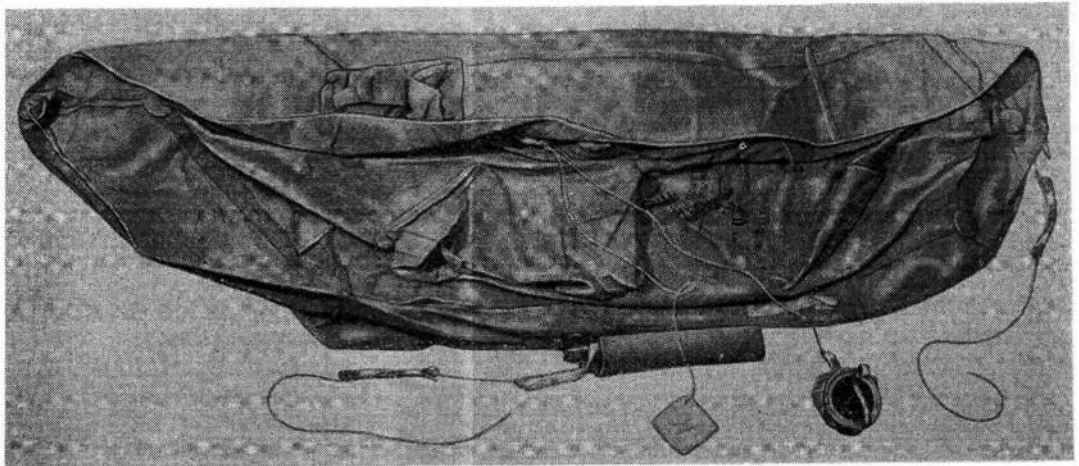

Fig. 4. First longitudinal fold
16. Commence folding from the side opposite the CO₂ cylinder. Turn this side inwards towards the centre line (*fig. 4*) and then turn the whole over to meet the